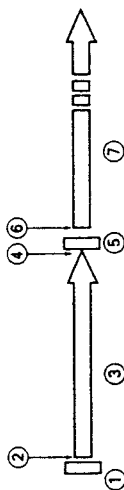

Figure 11
(5) Pausing
- Figure 11 shows the relationship between the play and pause